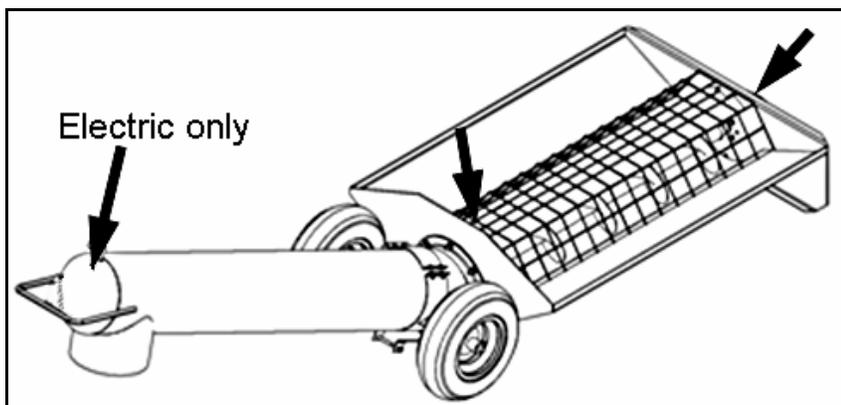

Figure 6.2
2. Grease points on the machine are shown by arrows in Figure 6.2.